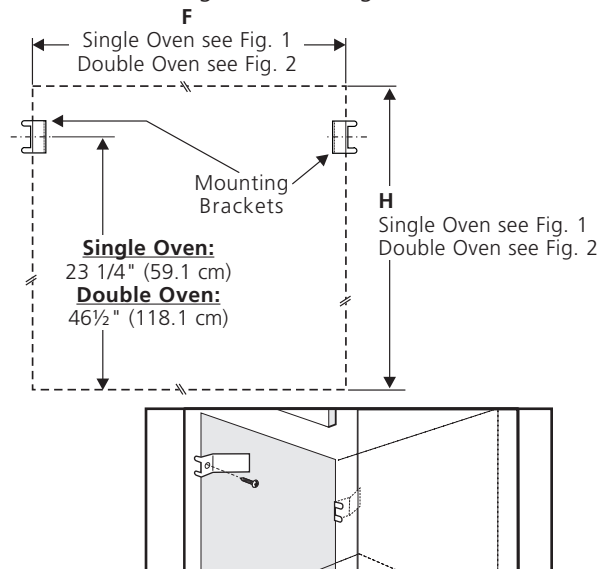

Figure 8
2. Install the mounting brackets in the cabinet as shown on figure 8. **Note:** To prevent damage to cabinet, it is recommended to drill 1/16" (0.16 cm) dia. pilot holes before installing the mounting brackets.